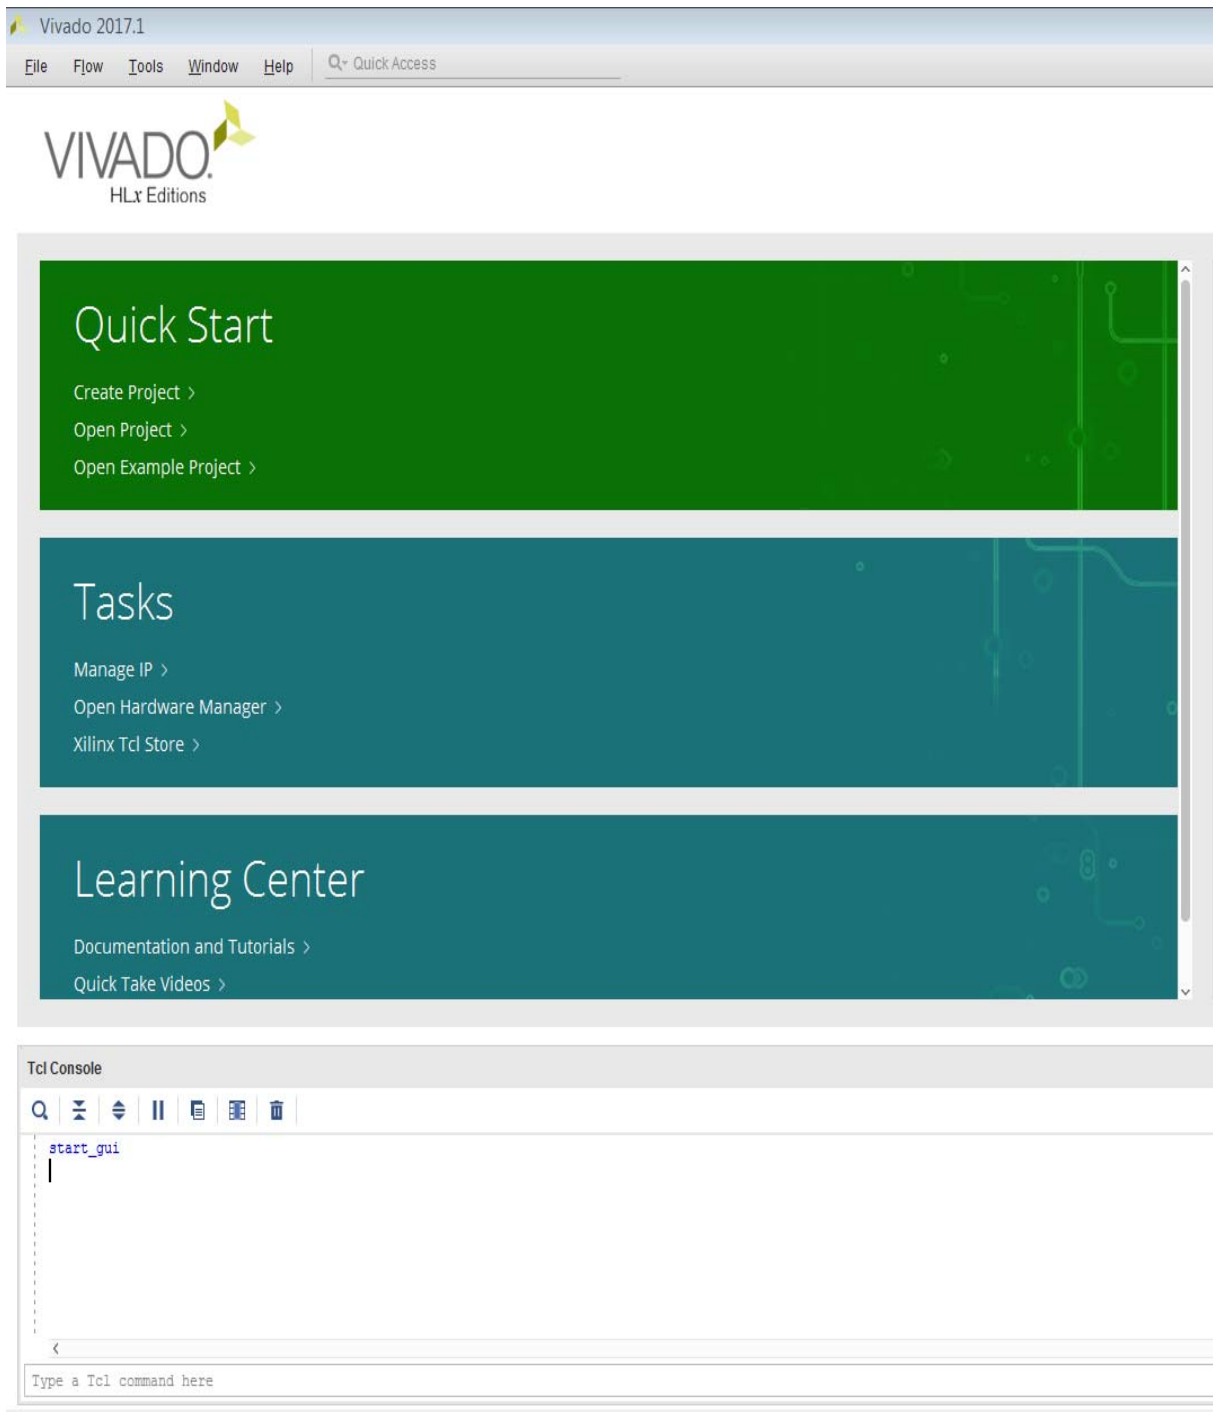

Figure 10-2: Vivado Welcome Screen
2. From the Welcome screen, click **Create New Project** (Figure 10-2).